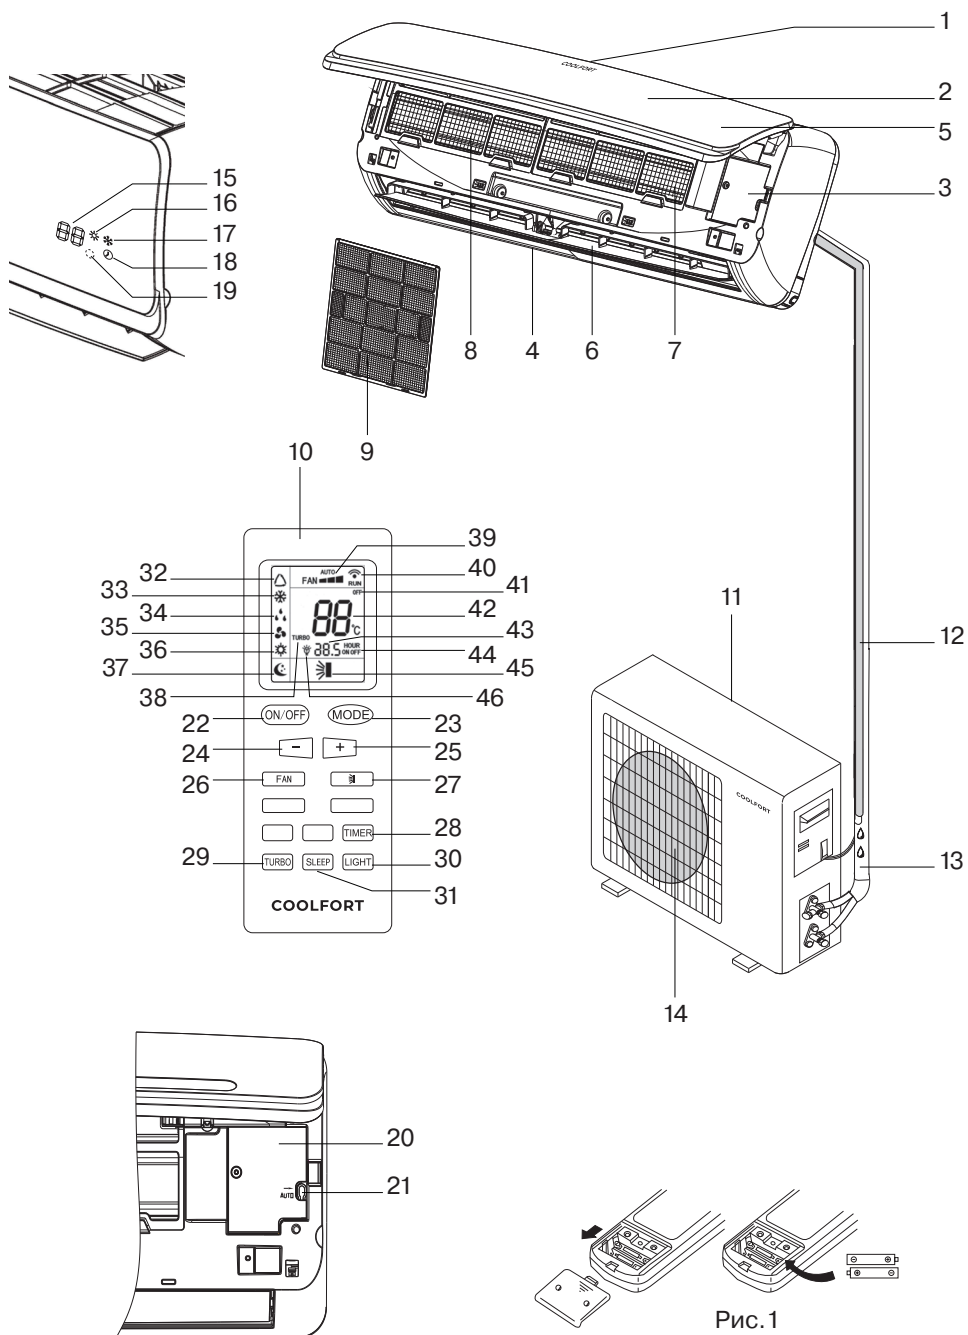

Рис. 1
- Install the cover and shift it to its place (fig. 1).